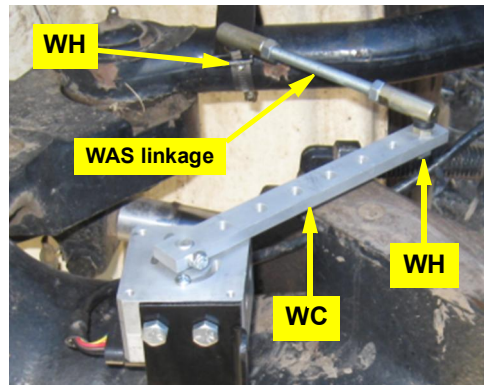

Figure 2d: Installed WAS linkage
d. Using the remaining hardware **WH** install the assembled WAS linkage from step 1d between the clamp bracket **WM** and the last hole in the connector arm **WC** (Figure 2d). Install the linkage: